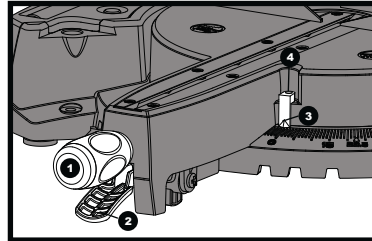

Fig 25
- 1) Unlock the mitre table by turning the mitre handle (1) counterclockwise.
- 2) Move the turntable while lifting up on the positive stop locking lever (2) to align the indicator (3) to the desired degree measurement.
- 4) If the mitre angle desired is not one of the nine positive stops, simply lock the mitre table into position by turning the mitre handle in the clockwise direction. (See fig. 25)
- 2) Loosen the screw (4) that holds the indicator with a Phillips screwdriver.
- 3) Adjust the indicator (3) to the 0° mark and retighten screw. (See fig. 25)